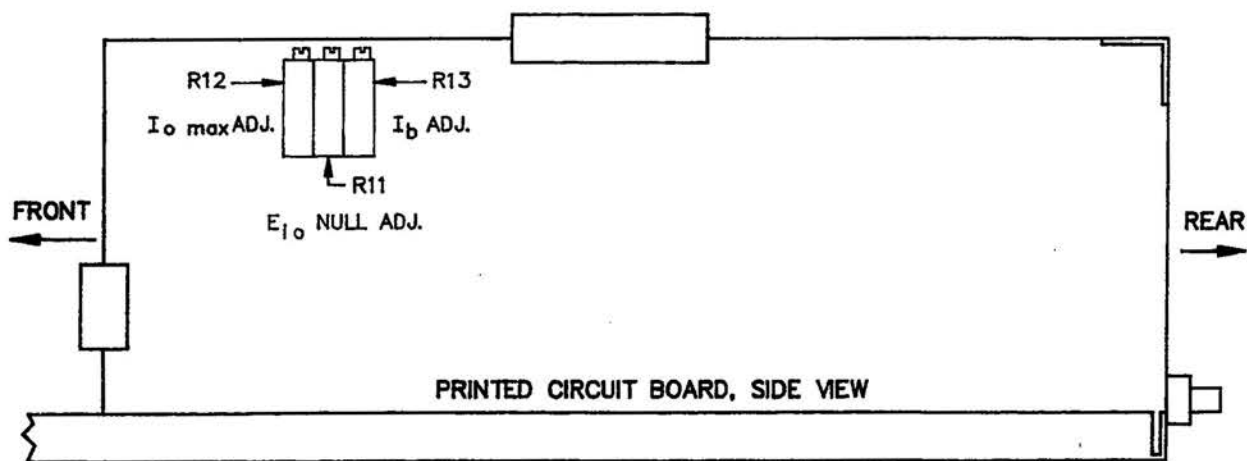

FIGURE 2-1 LOCATION OF INTERNAL CONTROL
- c) INTERNAL ADJUSTMENTS AND CALIBRATIONS: Refer to FIG 2-1 and TABLE 2-1